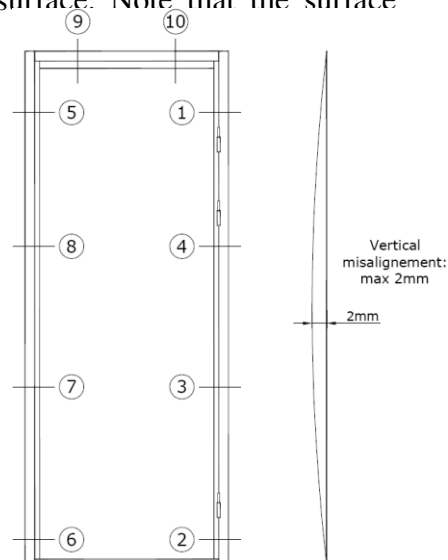

Figure 2 – Fixing points and maximal vertical misalignment of the door frame
6. Drill holes for and install four 5mm screws into hinge (one) side of the frame. Start with upper and lower screw, watch for misalignment of fixed frame side. (figure 2)